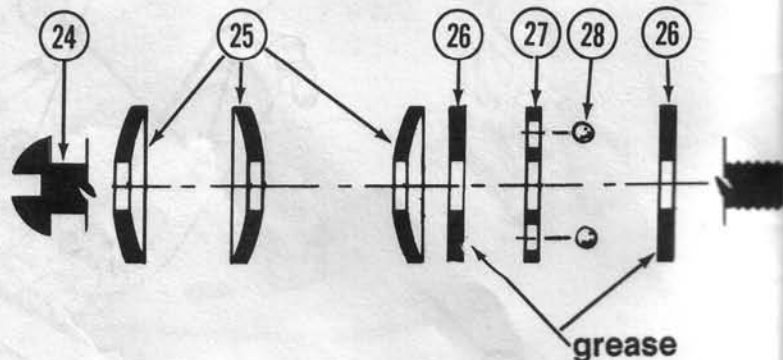

FIG. 11
A. Slide three opposing belleville cone washers (25) down the 5-40 x 7/8" button head shoulder screw (24) with the top of the cone of the first washer (25) against the head of the screw (24). Fig. 11.
* NOTE: The washers (25) should be opposing ie; the tops of the cones should meet and the bottoms of the cones should meet. Fig. 11.
B. Slide one well greased thrust washer (26) down screw (24) shaft. Fig. 11.
C. Slide bronze bearing cage (27) down screw (24) shaft. Fig. 11.
D. Insert 8 thrust ball bearings (28) into the cage (27). Fig. 11.
E. Slide the second well greased washer (26) down screw (24) shaft. Fig. 11.